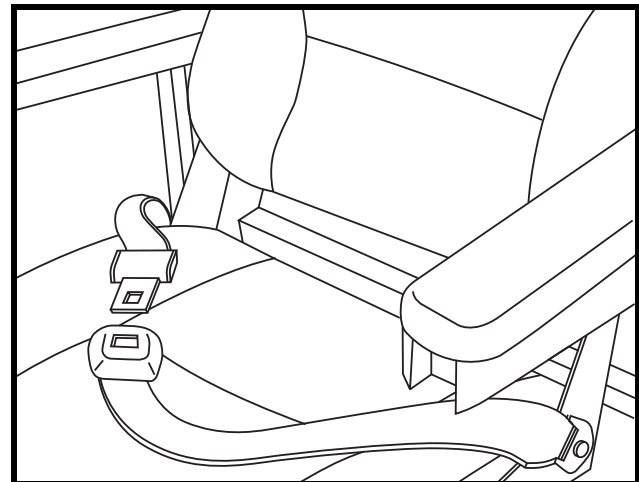

Figure 23. Positioning Belt
1. Insert the metal tab on the right side of the belt into the plastic housing on the opposite strap until you hear a “click.” See **figure 23**.